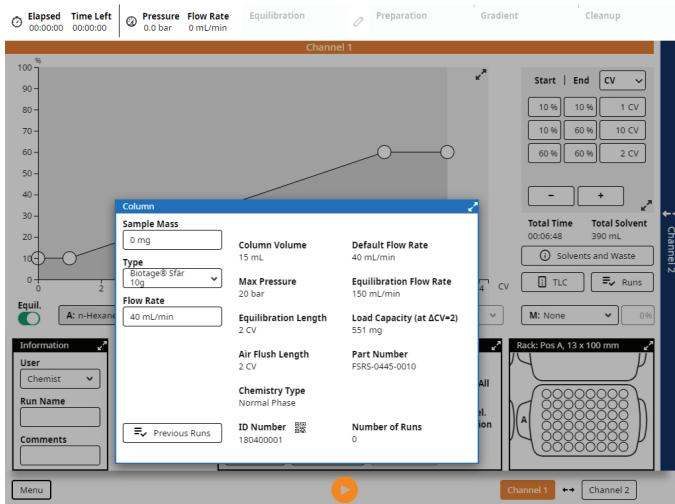

Figure 14. The Column panel expanded.
- » **Equil./Equilibration:** The column is equilibrated before the run, unless this option is turned off. The equilibration volume and flow rate are set automatically based on the selected column type. To see the settings, expand the **Column** panel (see Figure 14). We strongly recommend that the equilibration is not turned off.
Note: If you expand the **Column** panel, all of the settings for the selected column type are displayed (see Figure 14). If the column has been scanned, the column's ID and the number of times it has been used is also displayed. For more information, see “Administrare Column Types” on page 17.